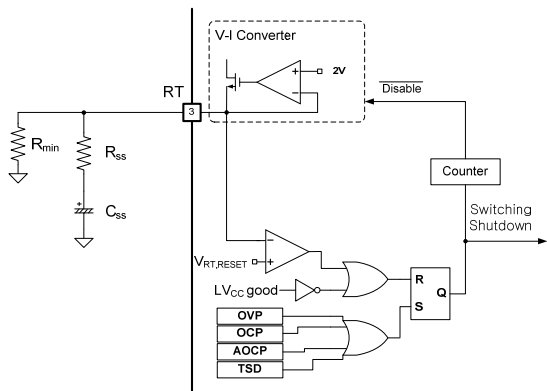
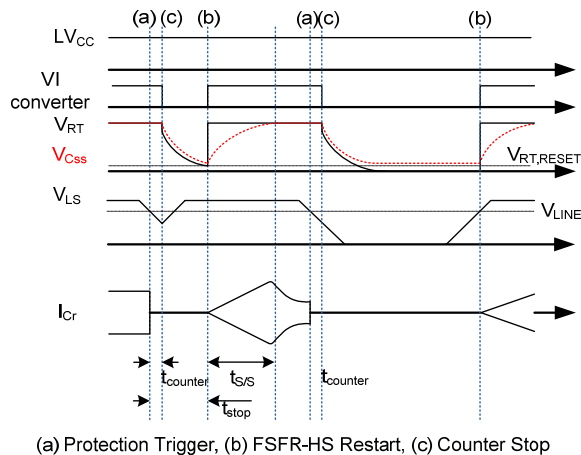

Figure 22. Internal Block for Auto-Restart
Figure 23. Self Auto-Restart Operation
4. Self Auto-Restart: The FSFR-HS series can restart automatically even though any built-in protections are triggered in case external supply voltage is applied. As shown in Figure 22 and Figure 23; once a protection is triggered, the power MOSFET immediately stops. The counter starts to operate and 1008-clocks are counted, then the V-I converter is disabled. C_{SS} starts to be naturally discharged with the series impedance of R_{SS} and R_{min} until V_{RT} drops to $V_{RT,RESET}$, typically 0.1V. Then, all protections are reset and the V-I converter resumes. The FSFR-HS starts switching again with soft-start.